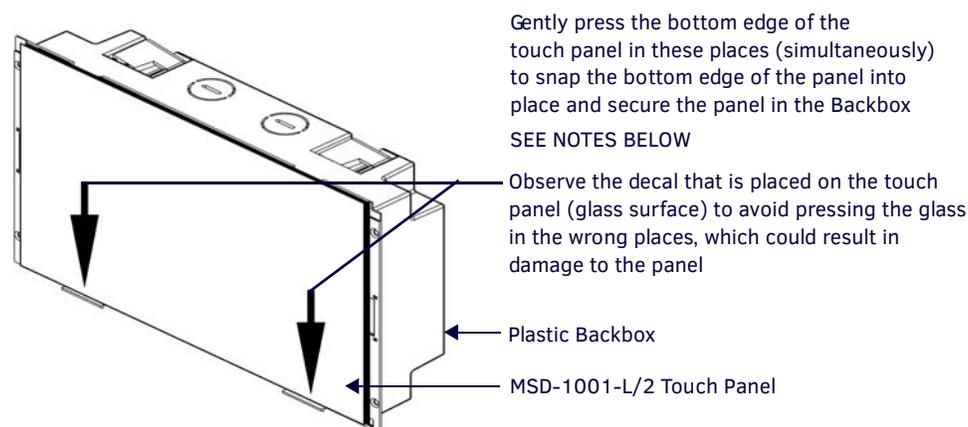

FIG. 32 SNAPPING THE BOTTOM EDGE OF THE PANEL INTO THE BACKBOX
2. Gently press the bottom edge of the panel gently but firmly and ONLY IN THE PLACES INDICATED BELOW until the tabs click into place to secure the panel (FIG. 32):